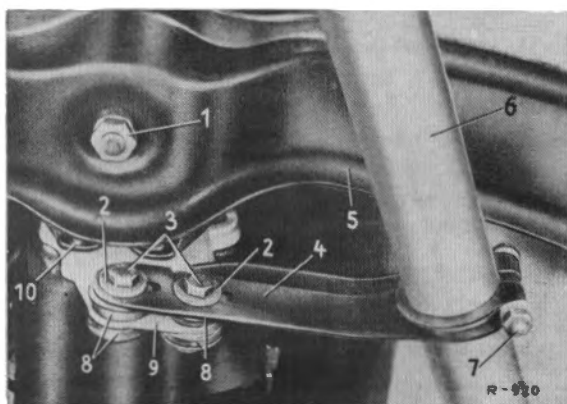

Fig. 00-1/3
11. Pass a suitable lifting cable under the engine, at the front at the Vee-pulley and at the rear at the oil pan, and tighten the cable gently until it takes the weight (see Fig. 00-1/7).